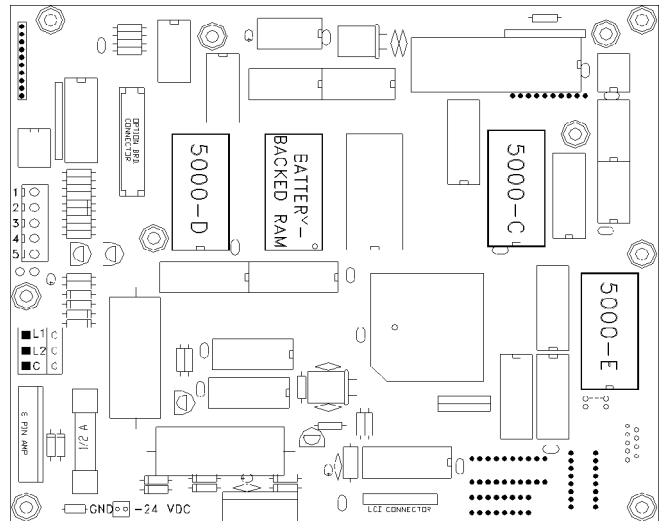

Figure A.6: OIT Circuit Board
- ◆ Using Figure A.6, locate and remove chips 5000-C, 5000-D, and 5000-E.